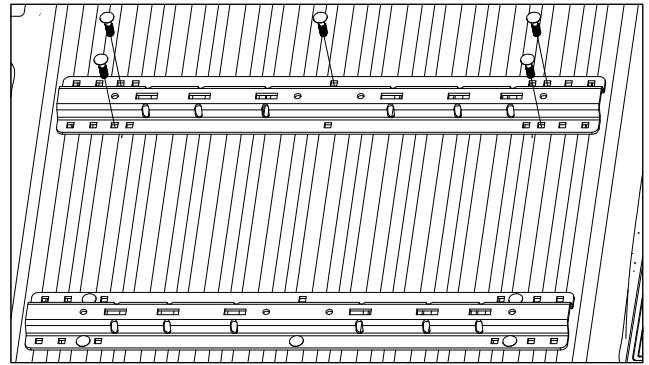

Figure G1: View looking down into bed from rear of truck.
**1. Install the forward mounting rail.** Re-position the forward mounting rail over the drilled 9/16" holes in the bed. Install five 1/2" x 2" carriage bolts through the five drilled positions, as shown in figure G1. Under the bed place a U-shaped spacer between the side plate flanges and the bed around each of the five carriage bolts. Secure each of the five carriage bolts with an offset rectangle washer, lock washer, and nut. Hand tighten hardware only at this time.